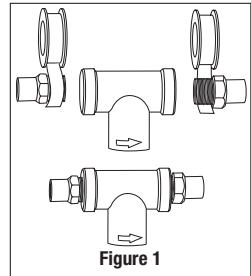

Figure 1
1. Using PTFE tape, wrap the threaded ends of the adapters and screw into both ends of the cartridge head. **Do not use pipe sealant/dope as they may contain solvents that may deteriorate fittings.** (Figure 1)